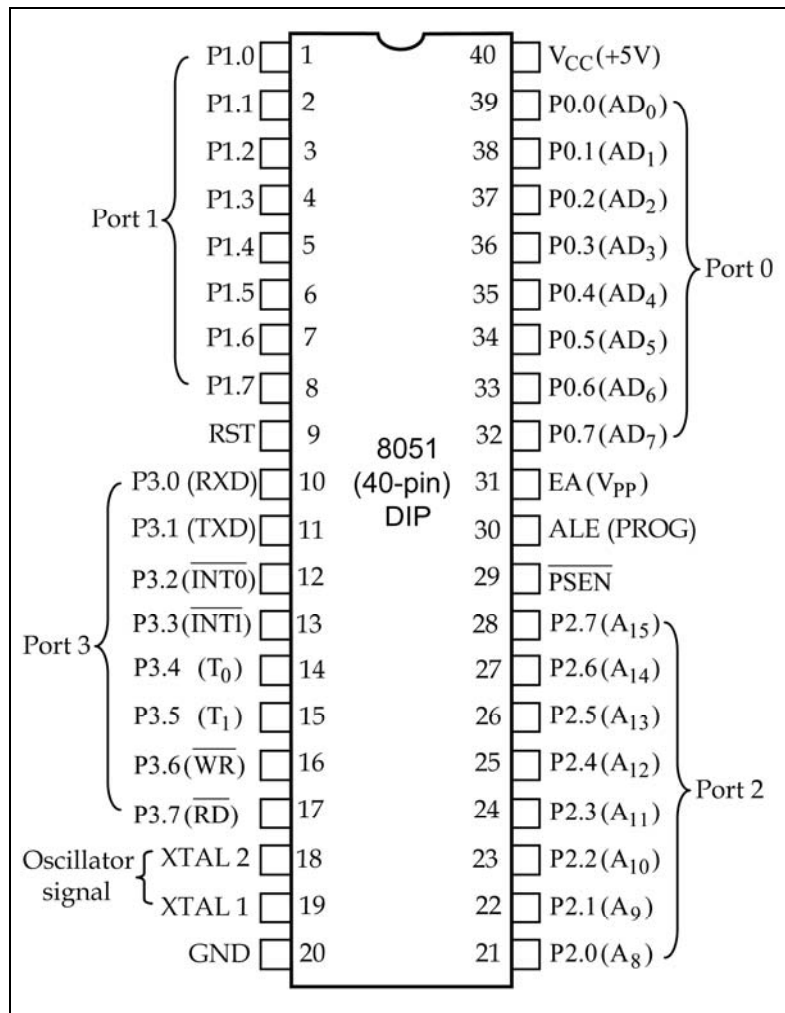

Fig. 1.9(a)
5. Fig. 1.9 shows the pin diagram of 8051.